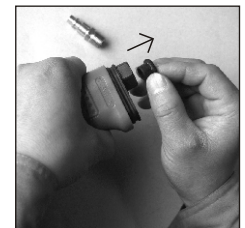

Figure 1
1. Remove the air inlet protective cap from the 1/2 in. impact wrench (A). (See Figure 1)